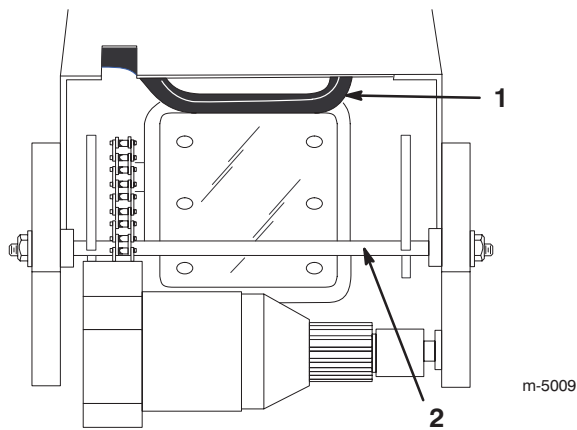

**Figure 2**
1. Remove the 2 flange-head bolts that secure the idler pulley assembly to the engine frame, and remove the idler pulley assembly (Fig. 2).
2. Align the holes in the auger/impeller housing with the holes in the engine frame (Fig. 2).
3. Route the auger/impeller drive belt around the impeller pulley (Fig. 2).
5. Install the idler pulley assembly, aligning the idler pulleys with the belts (Figs. 2 and 31).